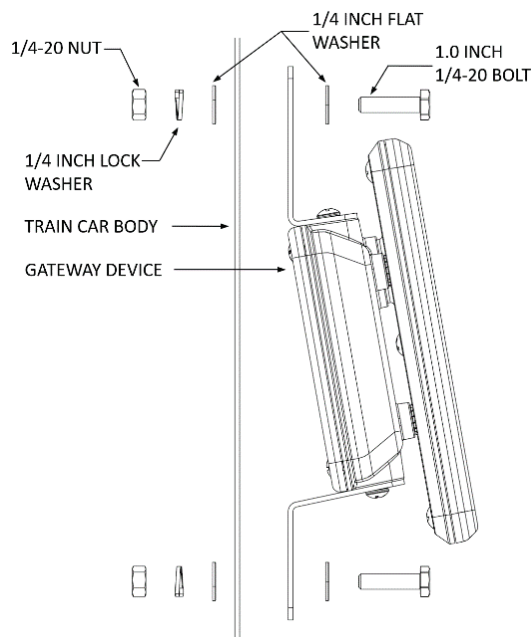

Figure 4
- 5.6.3. Install a FLAT WASHER, LOCKING WASHER and 1/4-20 NUT onto the BOLT as shown in Figure 4.
- 5.6.5. Install the other three sets of BOLTS, NUTS and WASHERS as shown in Figure 4 & 5.